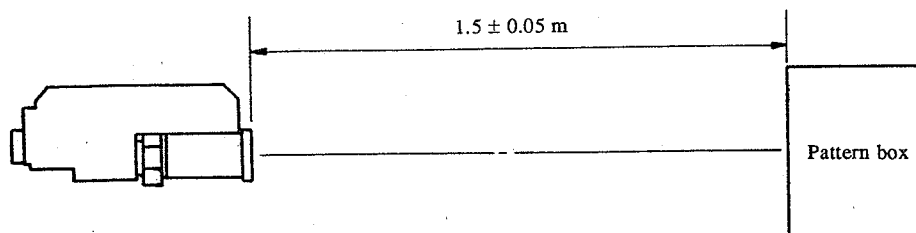
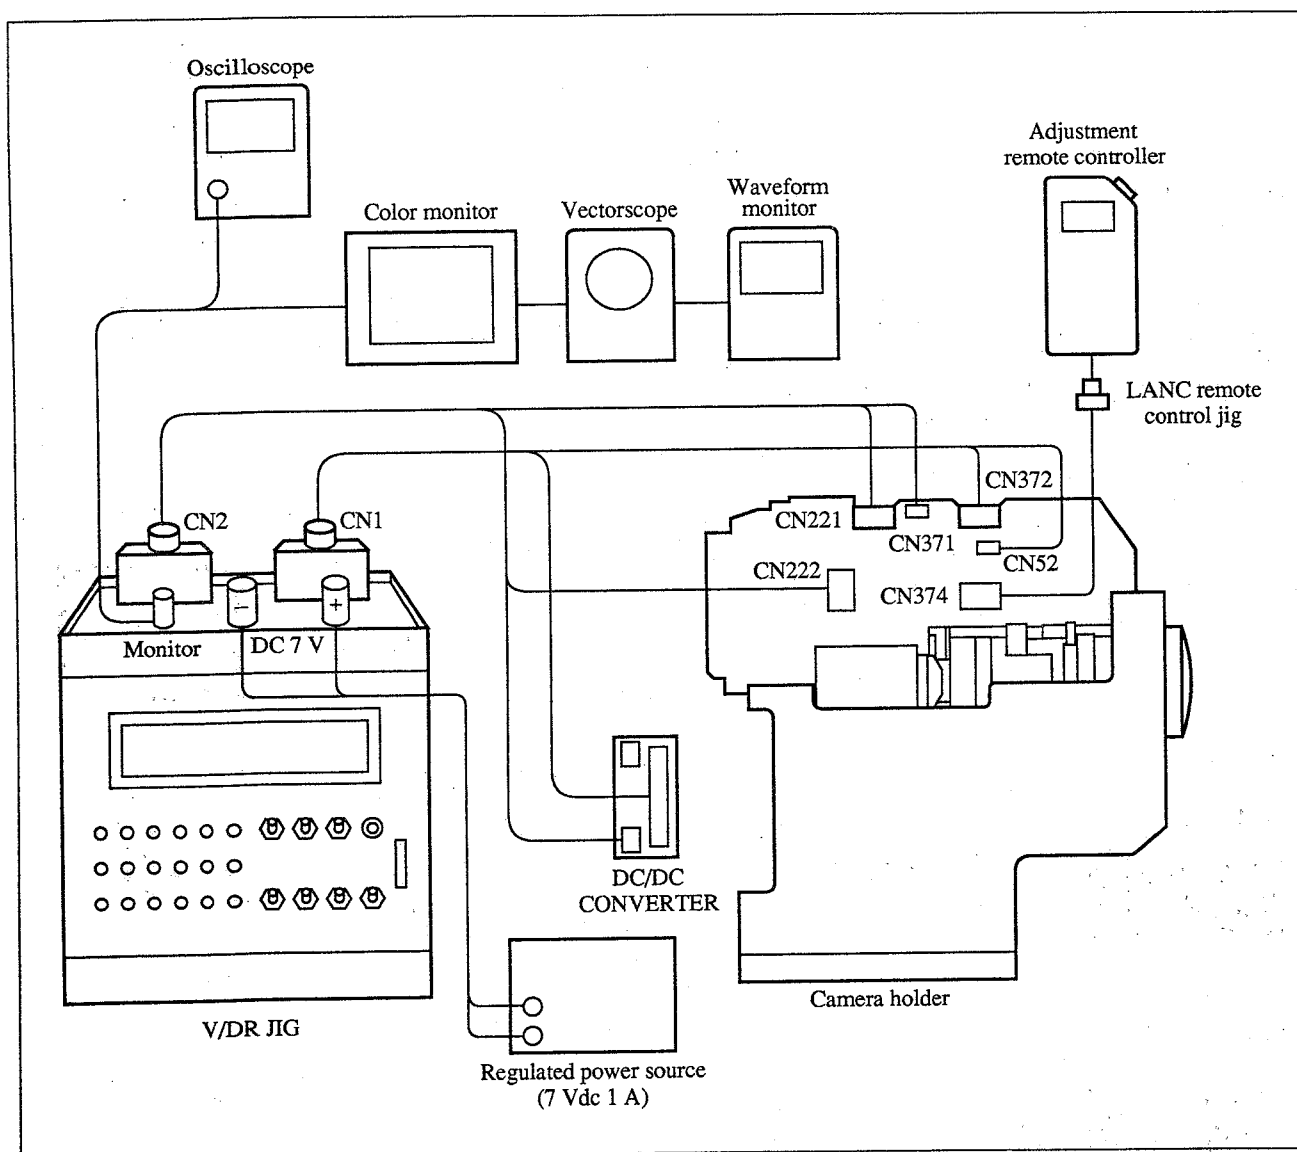

Fig. 4-2
Fig. 4-3
- 1) Setup the adjustment instruments as shown in Fig. 4-2 and Fig. 4-3.